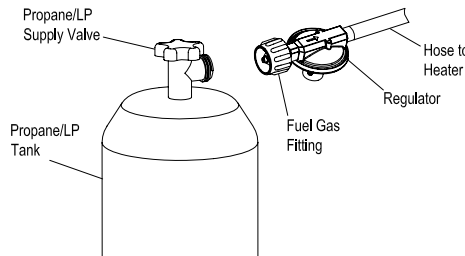

FIGURE 2
- 3b. For units with a QCC fitting (see figure 2) turn QCC gas fitting clockwise onto threads on tank. Tighten firmly using your hand (DO NOT USE A WRENCH). **IMPORTANT:** Position regulator so that the regulator vent is pointing down toward the floor and the arrow on the regulator is visible.